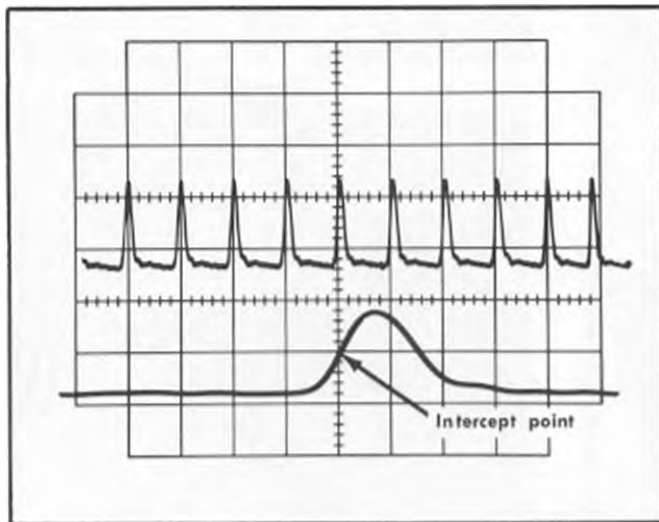

Fig. 6-46. Typical display obtained to illustrate intercept point with dial at 1.00.
y. Set the Lower Beam DISPLAY MAG switch to  $\times 10$  and use the Lower Beam POSITION control to position the 50% level on the rising portion of the marker pulse to an intercept point. For example, at the point where 5th cm vertical graticule line and 2nd cm horizontal line from bottom of graticule meet as shown in Fig. 6-46.